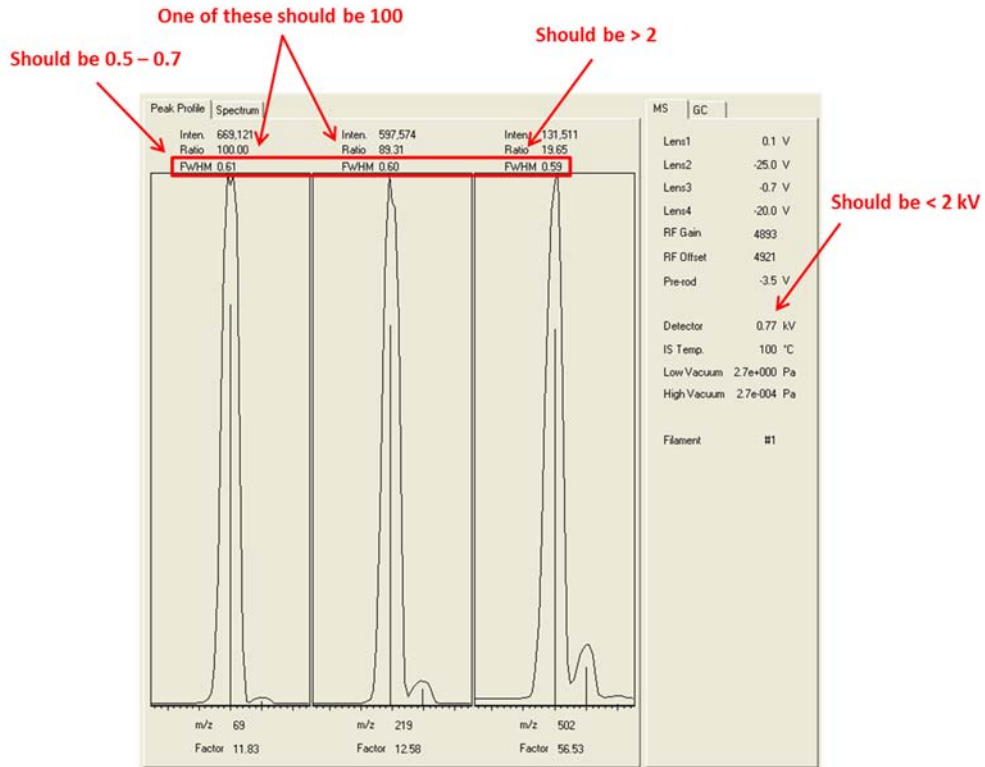

Figure 2: Peak profiles in Tuning Result View
3. Click on Start Auto Tuning  in the Assistant bar. Wait for auto tuning to complete (about 3 min). The Tuning Result View should automatically appear upon completion of auto tuning (see Figure 2 and Figure 3). If this fails to occur, it can be accessed via the Assistant Bar.
4. Verify that the FWHM of each peak in the Peak Profile (Figure 2) tab is in the range 0.5 - 0.7. Verify that the detector voltage does not exceed 2 kV. Verify that either m/z 69 or m/z 219 is the base peak (Ratio = 100.00). Verify that the relative intensity ratio for m/z 502 is at least 2%.